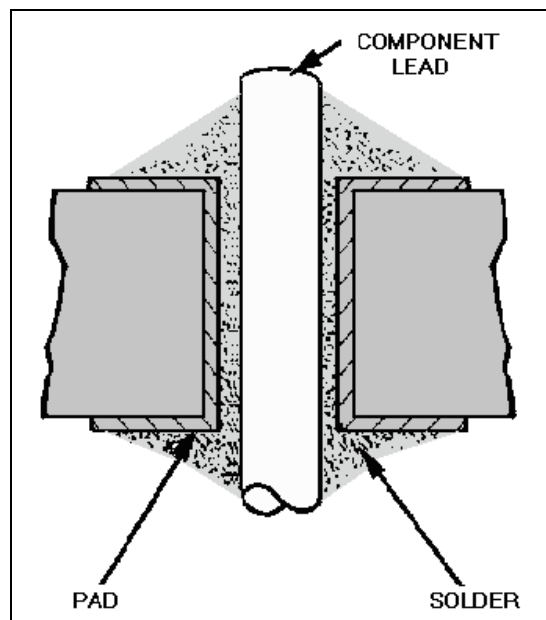

Figure 3-6.—Straight-through termination.
**Straight-Through Lead.**—Straight-through terminations (figure 3-6) are used by manufacturers when the termination stability is not a prime consideration. This termination type may also be used with unsupported holes. The through-hole termination provides a better, solder-joint contact area and more solder support; the solder runs from the component side to the conductor. The straight-through termination is the easiest to remove and rework.